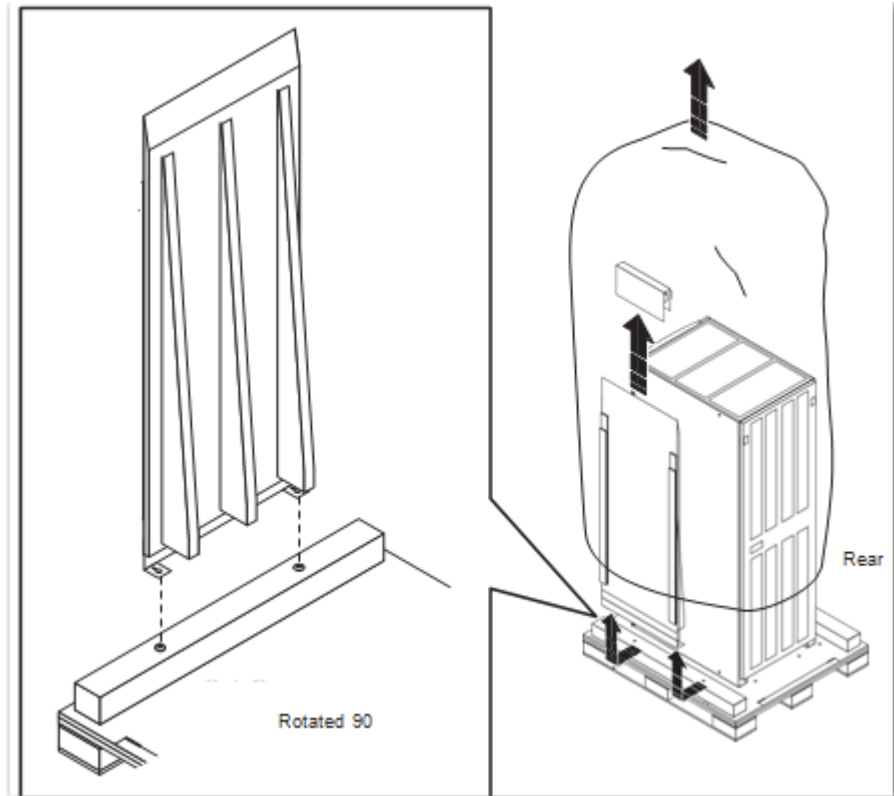

Figure 13 Releasing the rack from the pallet
3. To release the ramp from the pallet (Figure 13), grasp the ramp, pull it straight back toward you, then pull it straight up to free it from the screws.